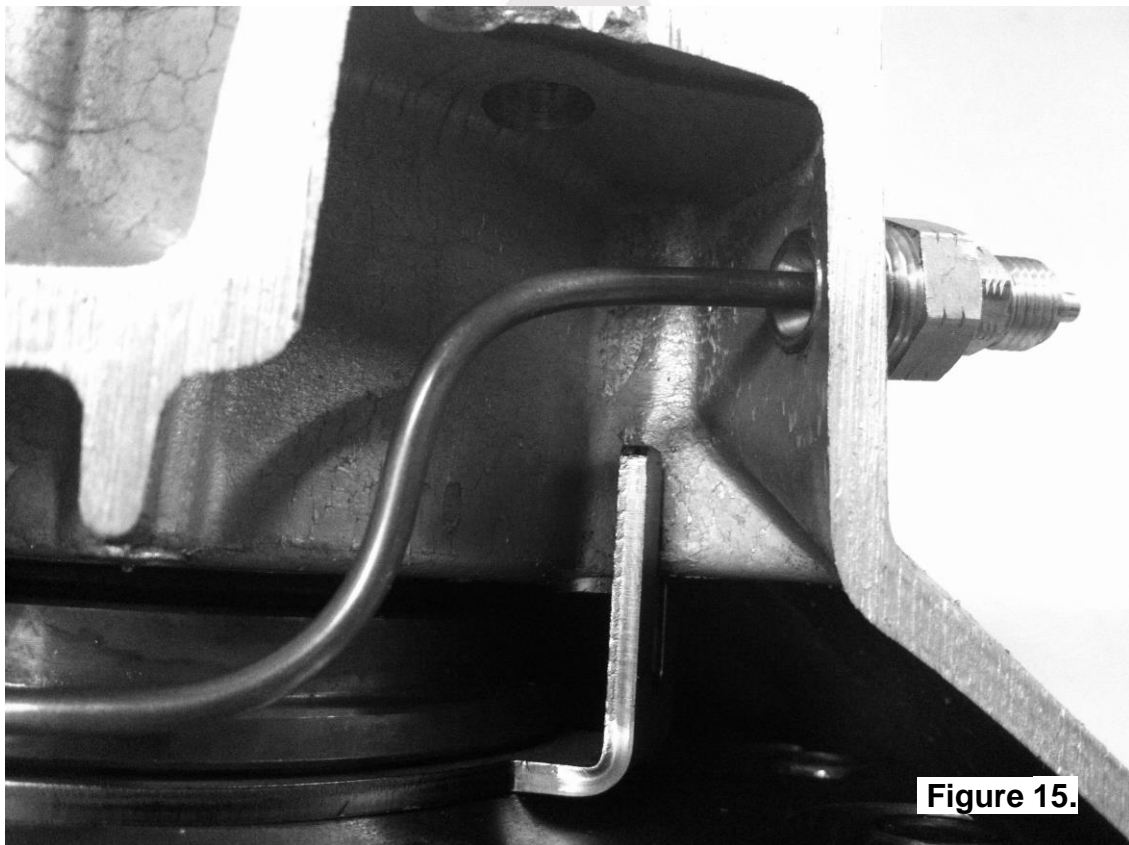

Figure 15.
- Assemble the non-pinion side of the clamshell onto the *Air Locker* ensuring that the seal housing tube goes through the bulkhead fitting, and that the seal housing bracket lines up with the ribs in the clamshell (Figure 15.)